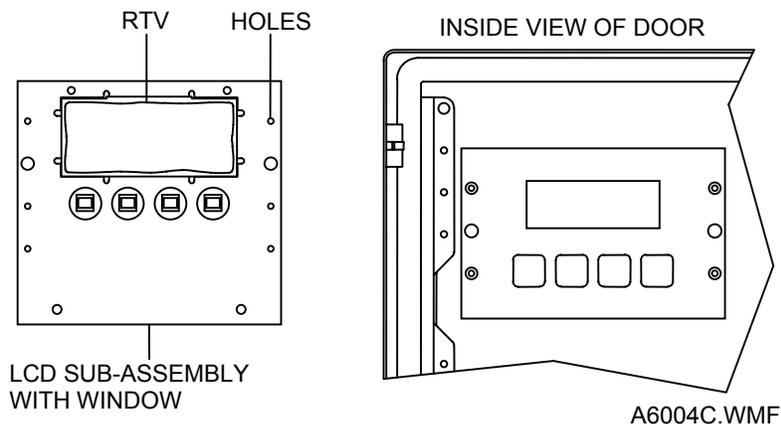

Figure 4-5. Using RTV to Seal Window
6. Place a small bead of RTV (approximately 1/16 inch wide) around the edge of the window. Refer to Figure 4-5.